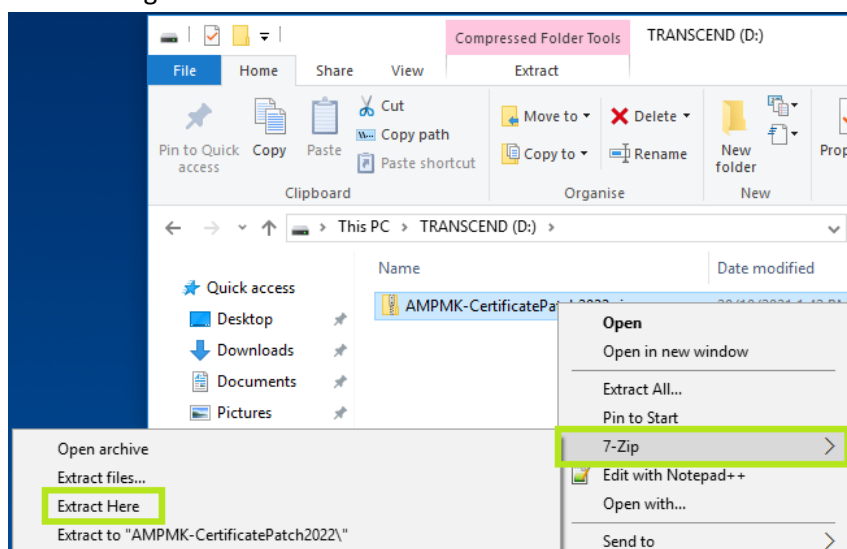

Figure 3 - Extract file
1. First, right click the AMPMK-CertificatePatch2022.zip, select “7-Zip”, and then select “Extract Here”, as shown in Figure 3.